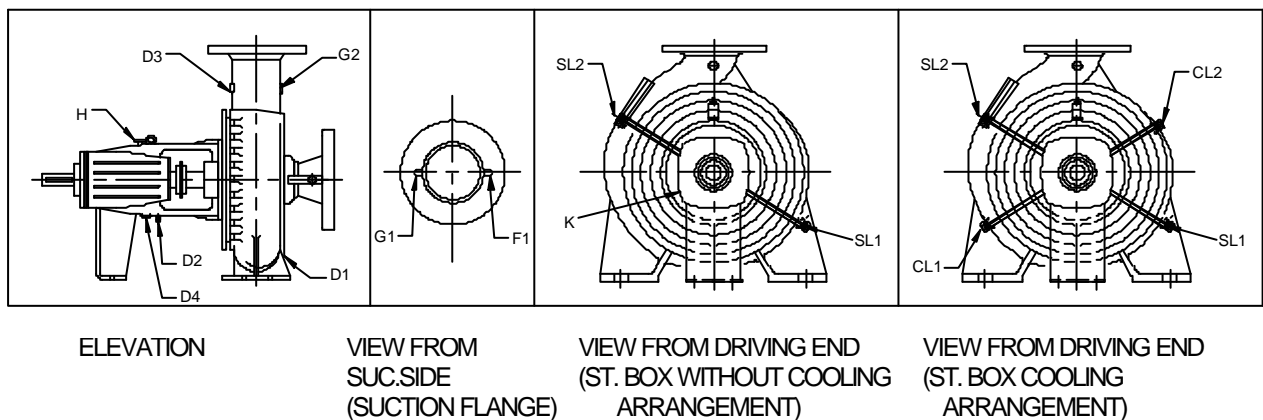

FIG. 2
- 2.3.3 Please refer to Fig.2 for plugs and piping connections in SHM pumps.